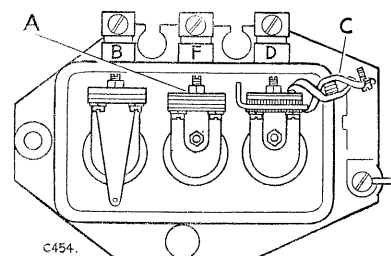

Fig. P-14—Short-circuiting voltage regulator contacts
3. Slacken the adjustment screw locking nut (see Fig. P-14) and turn the screw in a clockwise direction to raise the voltage setting, or anti-clockwise to lower the setting. Turn the screw a fraction of a turn only at a time and re-tighten the locknut.
1. When setting the current regulator on the vehicle, the dynamo must be made to develop its maximum rated output, whatever the state of charge of the battery might be at the time of setting. The voltage regulator must therefore be rendered inoperative. To do this, the voltage regulator contacts should be short-circuited with a clip large enough to bridge the outer armature assembly securing screw and the insulated fixed contact bracket, as shown in Fig. P-14.